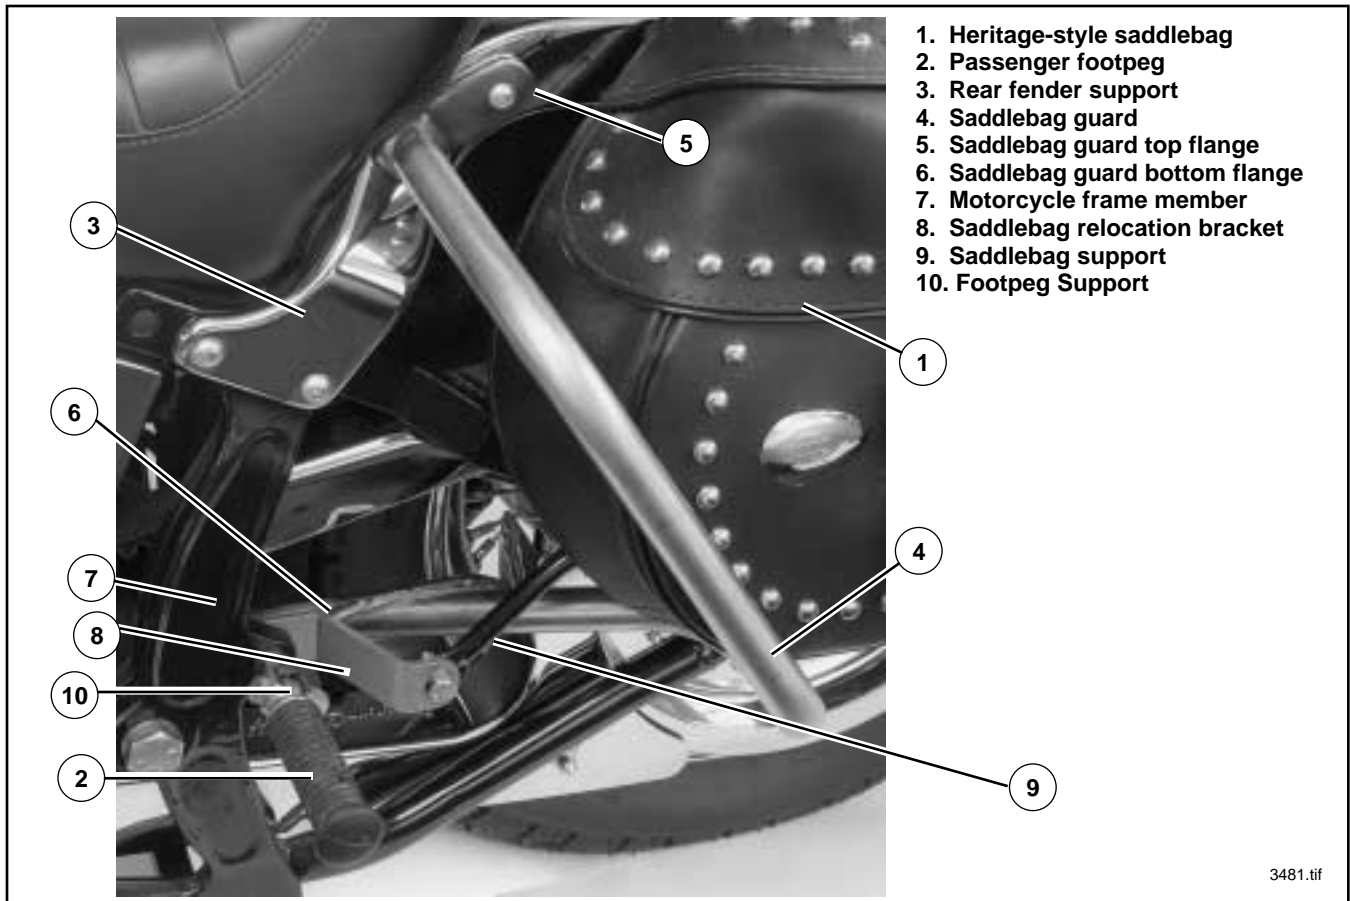

Figure 1. Rear Saddlebag Guard Installed-Left Side
3. See Figure 1. Remove nut, flat washer, seat strap bracket (if equipped), and 3/8 in. diameter bolt from position on rear fender support (immediately to the rear of front seat) which will serve as upper mounting point of saddlebag guard. Discard bolt.